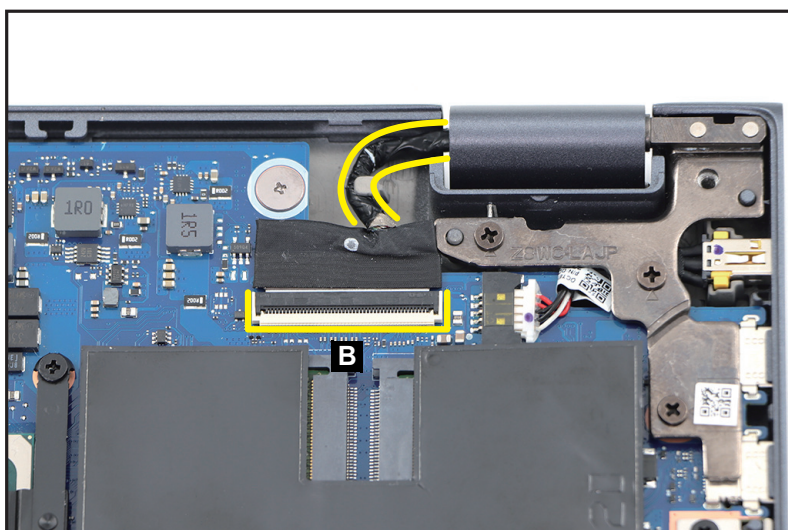

Figure 1-21. LCD Module Removal
2. Disconnect the LCD cable from the mainboard connector (B). Then unroute the cable from the cable guides as shown in Figure 1-21.